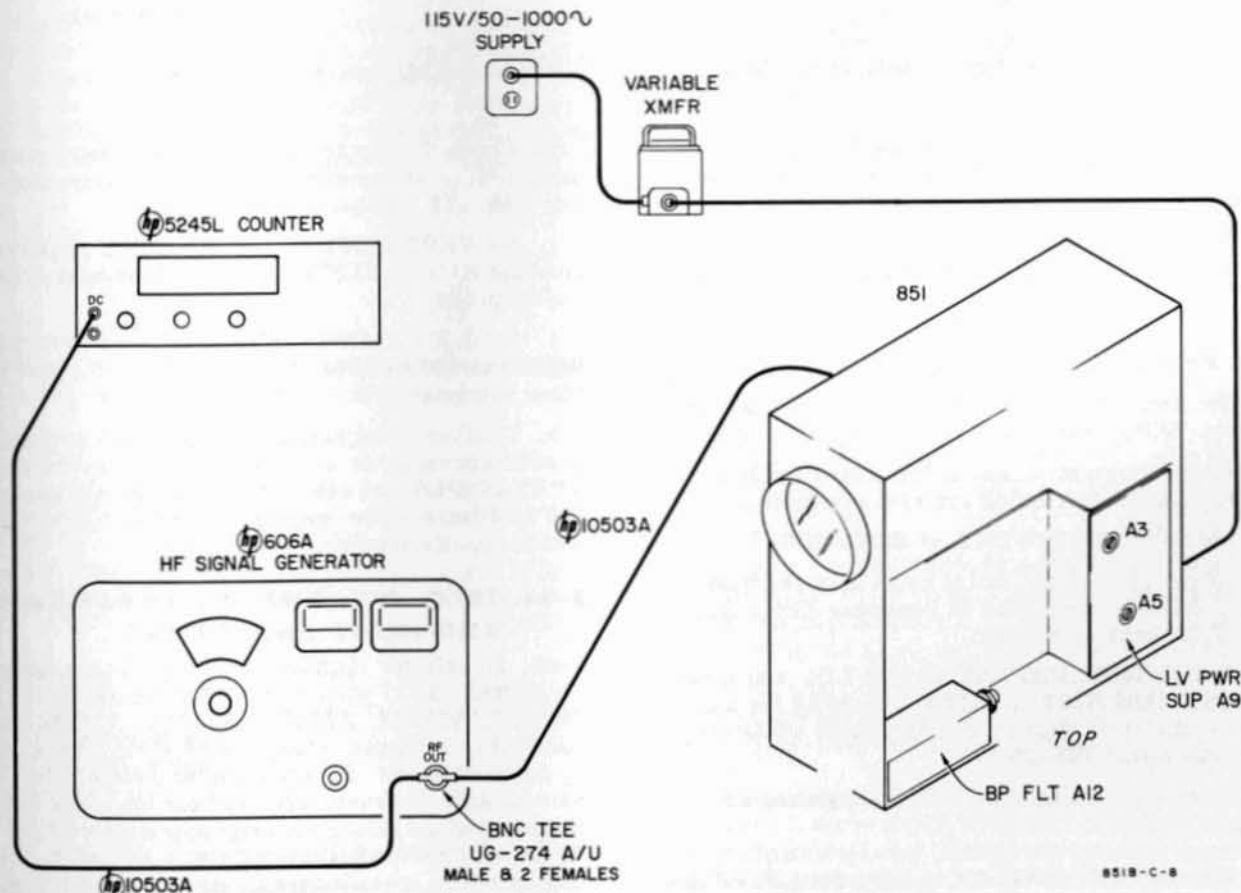

Figure 5-7. Measurement Setup, 1MC and 100KC I. F. Bandwidth Alignment and Checks
a. Setup. See Figure 5-7. Casting which houses RF Circuit Assembly A2 is on bottom of 851, and that which houses Bandpass Filter Assembly A12 is in top of 851, on right side near front panel. Access to both is required in this procedure; locations of Assemblies and adjustments are called out in Figures
a. Use setup indicated in Figure 5-7. 100KC Band-pass Filter Assemblies A3 and A5 are located toward rear of 851 on right side, beneath Low-Voltage Power Supply A9; access to adjustments A3L1 and A5L1 is through holes in the A9 Board; see Figure 5-36.